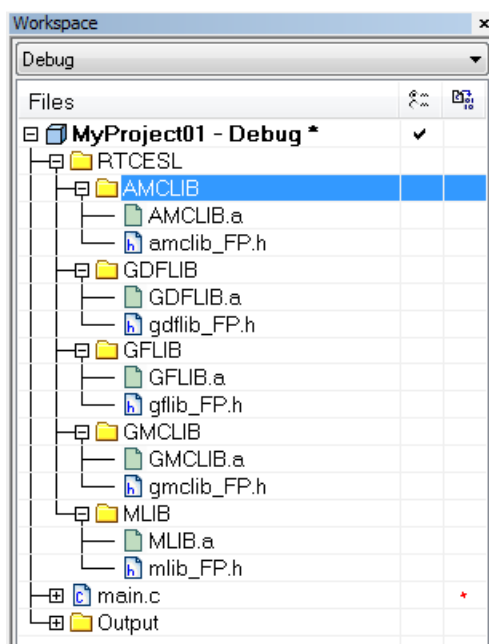

Figure 1-46. Project workspace
4. Click on the newly created node MLIB, and go to the main menu Project > Add Files... See Figure 1-46.
23. Now you will see the files added in the workspace. See Figure 1-46.